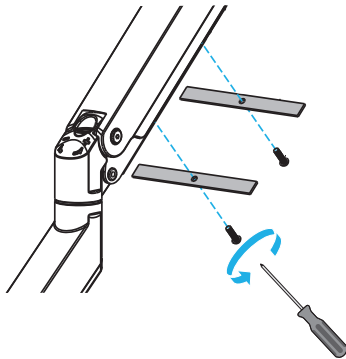

Figure 25
- (Optional) If the **Cables** or **Cable Bundles** are too large to be routed under the **Cable Management Covers**, use a **Phillips Head Screwdriver** to install the **M5x8mm Screws** (x 2) and secure the **Hook and Loop (Spring Arm)** onto the **Spring Arm**. The **Cable Management Covers** will not be used anymore. (Figure 25. (Figure 25)